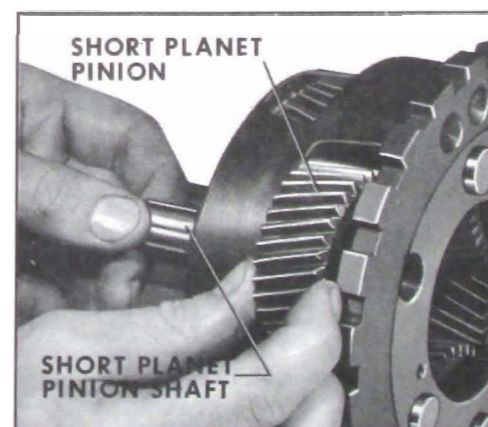

Figure 5-247
4. Remove pinion shaft and pinion gear from planet carrier. See Figure 5-247.